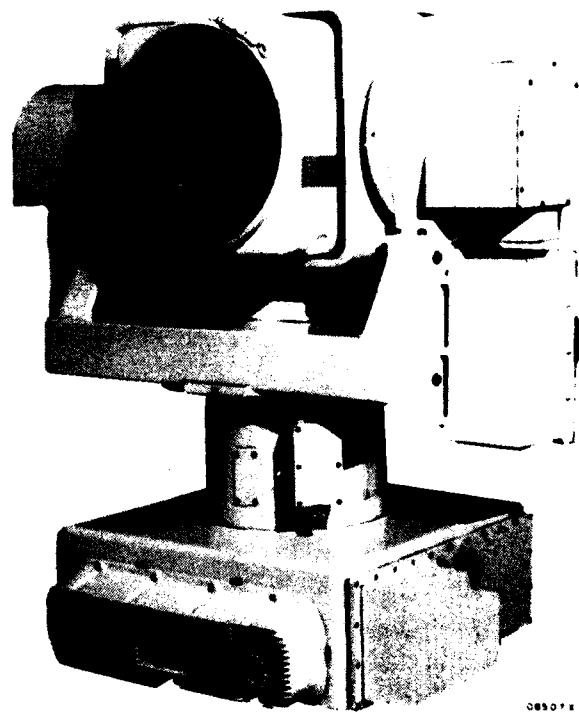

Figure 1.1 Model 066A Searchlight Positioner
1.2. General Description. The Model 066A Searchlight Positioner is a precise electromechanical device used to position a high intensity searchlight. The positioner is driven in the azimuth (AZ) axis, and in the elevation (EL) axis by direct drive DC torque motors. The positioner is shown in Figure 1.1.